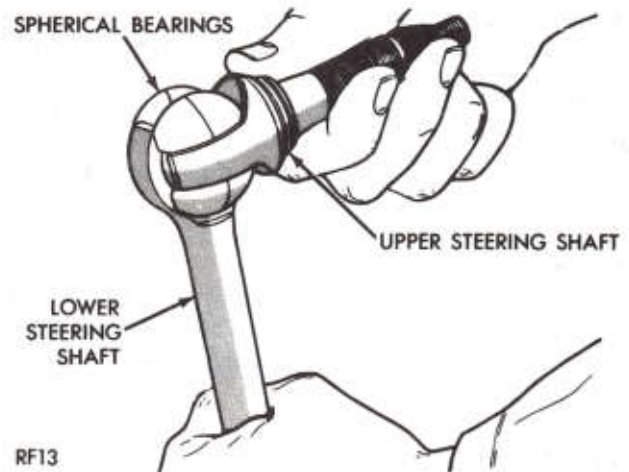

Fig. 10—Assembling or Disassembling Steering Shaft Centering Spheres
(16) Remove coupling from lower end of steering shaft. Double coupling is retained to shaft with a roll pin.
(17) Remove steering shaft assembly from upper end.
(18) Disassemble steering shaft assembly by removing center spheres and anti-lash spring (Figs. 10 and 11).
(19) Remove four bolts securing support to lock plate and remove support from end of column jacket. If necessary, remove two attaching screws and shift gate from the support.
(11) Insert support by aligning "V" in support with "V" notch in jacket. Insert screws through support into lock plate. Tighten screws to 60 in. lbs. (7 N·m).
(12) Reinstall lower bearing, if removed, in the lower end of shift tube. Locate approximately 3/16 inch inside of tube (use a soap solution or rubber lubricant to ease installation).
(13) Install centering spheres and anti-lash spring in upper steering shaft (Fig. 10). Install lower steering shaft from same side of spheres that spring ends protrude.